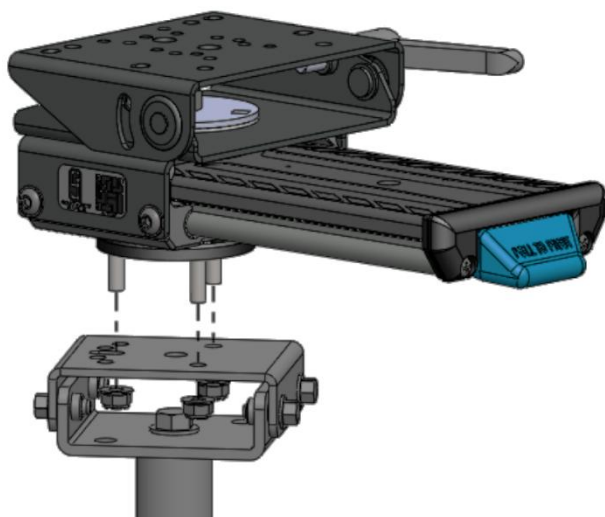

Figure 1
1. The Mongoose XE mounts directly to a Center Upper Pole (Figure 1) or other type mounting equipment that contains a Gamber Johnson 3-hole pattern cutout (Figure 2).